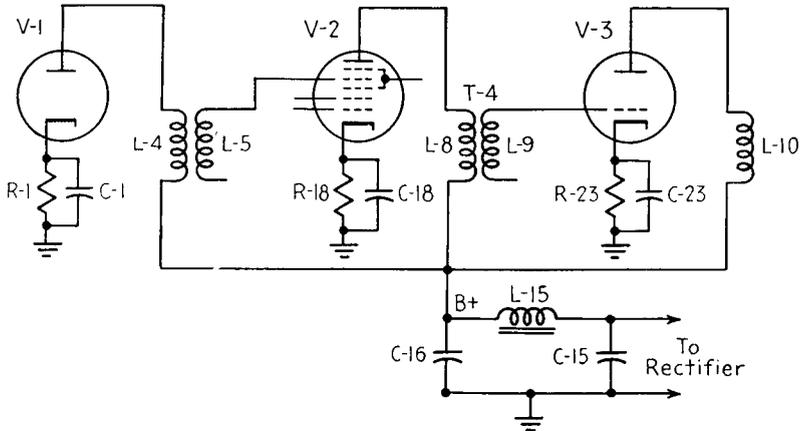

FIG. 13-4. Coupling in the plate circuit due to a common *B* power-supply component.
**Decoupling filters.** Whenever two or more stages are operated from the same voltage supply, there is a possibility of coupling between the stages through the common power supply. This is illustrated in Fig. 13-4.